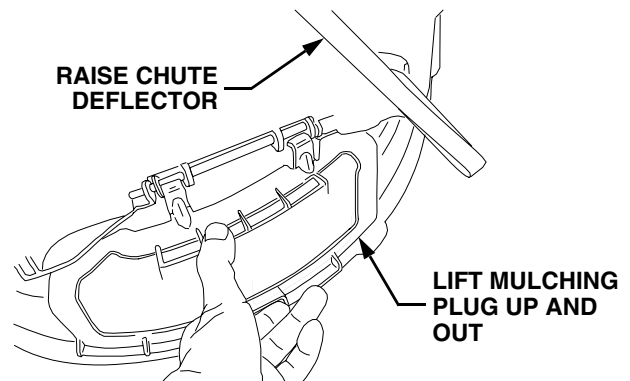

Figure 2
- Raise the chute deflector and lift the mulching plug upward, then outward to disengage from the deck and lower the chute deflector. See Figure 2.